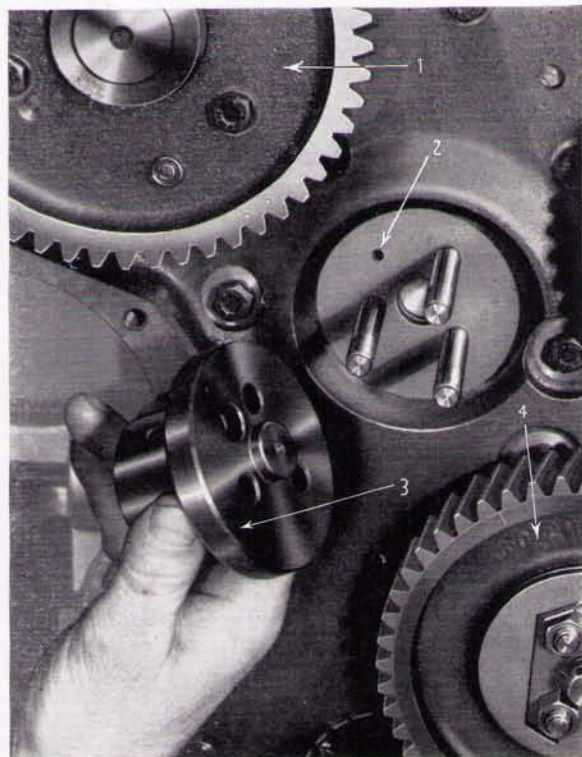

Fig. M.5.
7. The idler gear hubs may now be removed from the studs located in the front of the cylinder block (See Fig. M.5).